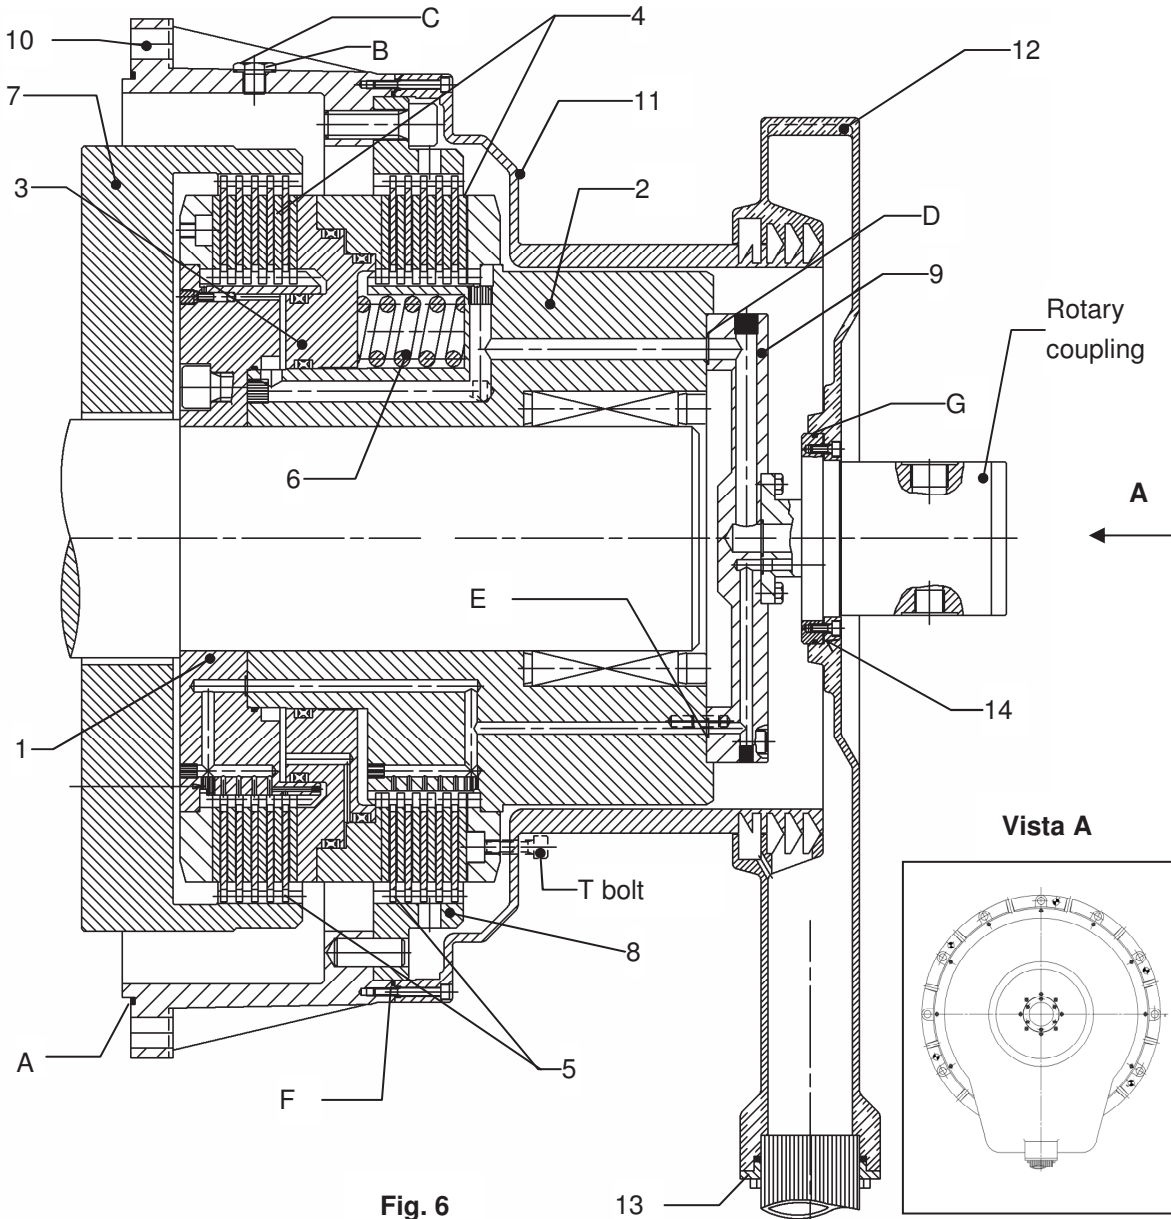
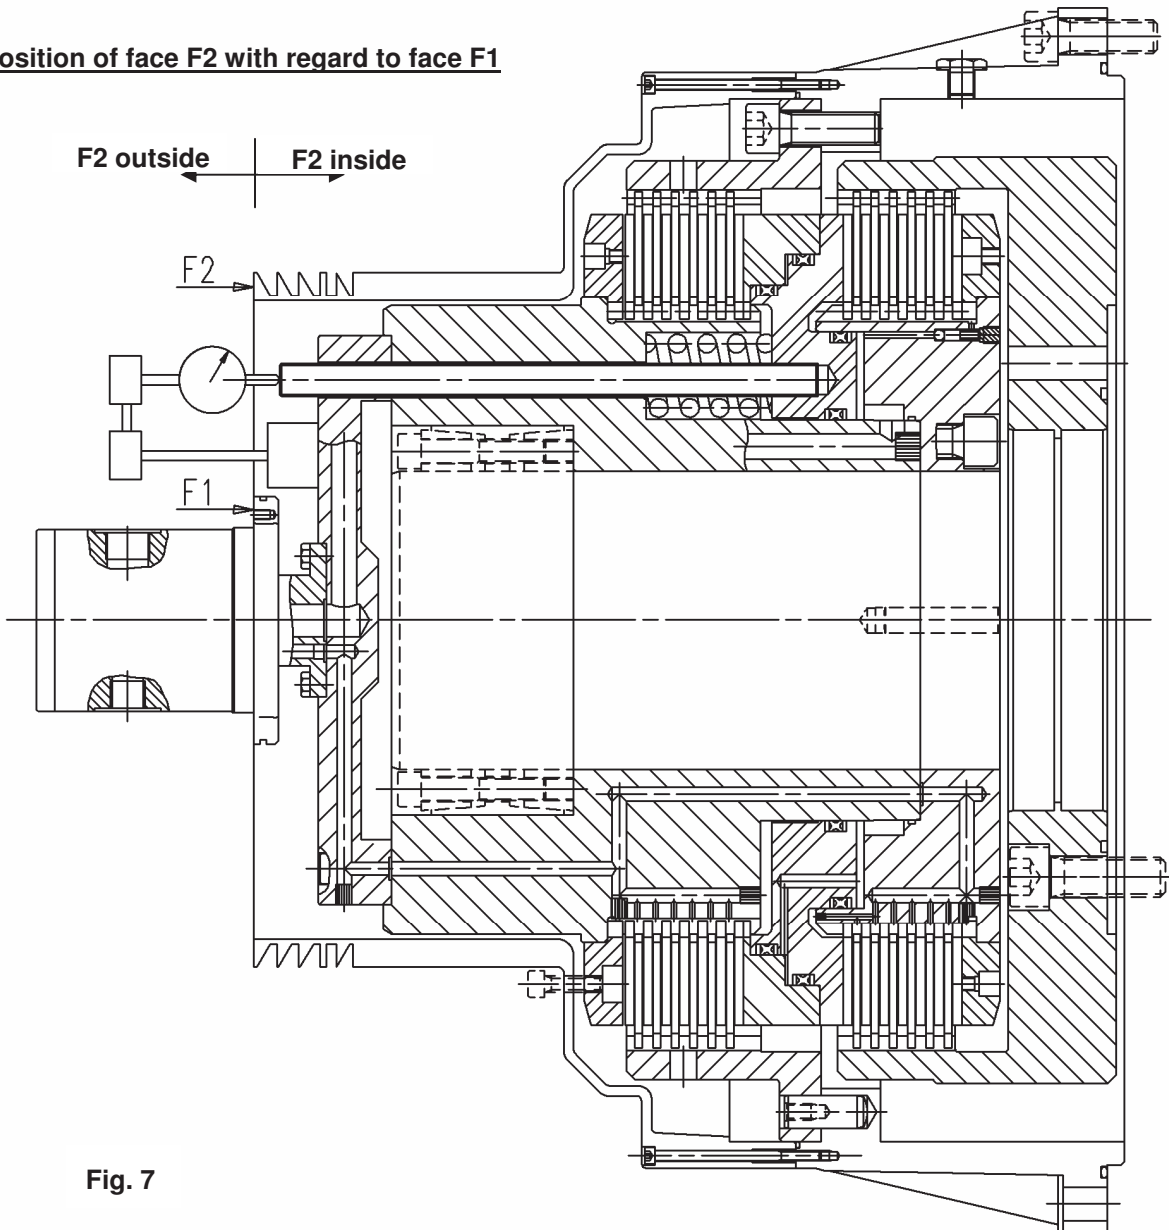

Fig. 6
Fig. 7
This version is adapted for being used with rotary oil collector. The clutch-brake unit is formed by the following parts (see Fig. 6):
1. Fix the brake housing (7) using the screws and dowel pins, at their tightening torques. Use LOCTITE 270 or similar for the bolts.
4. Fit the housing holder (10) and clutch housing (8) with dowel pins and screws tightened at the correct torque. Use LOCTITE 270 or similar for the bolts. The o-ring (A in Fig. 6) must be in its correct position.
Tap the threatened hole using B bolt and C washer (Fig. 6).
5. Fit the oil inlet disc (9) (with the rotary coupling) into the clutch brake unit with 8.8 quality screws tightened in its tightening torque. O-rings D and E (see Fig.6) must be in their position.
6. Fit the clutch housing holder (11) on the clutch housing (8), taking into account that the o-ring (F in Fig. 6) must be in its correct position. See instructions figure 7.
7. Fit the static oil collector (12) to the rotary coupling by the means of bolts tightened to its tightening torque, taking care of the correct position of G O-ring (Fig. 6).
Before mounting the rotary collector (11), check that face F1 (see Fig. 7) of the rotary seal and face F2 of the static housing (12) are in the same plain.
- If it is so, with a tolerance of 0,25 mm, a 1 mm thickness washer will be used (14 in Fig. 6).
- Introduce a threaded bar through one of the clutch hub holes, and tighten it to the main piston. Adjust the dial indicator as shown in figures 7, 11 and 12.